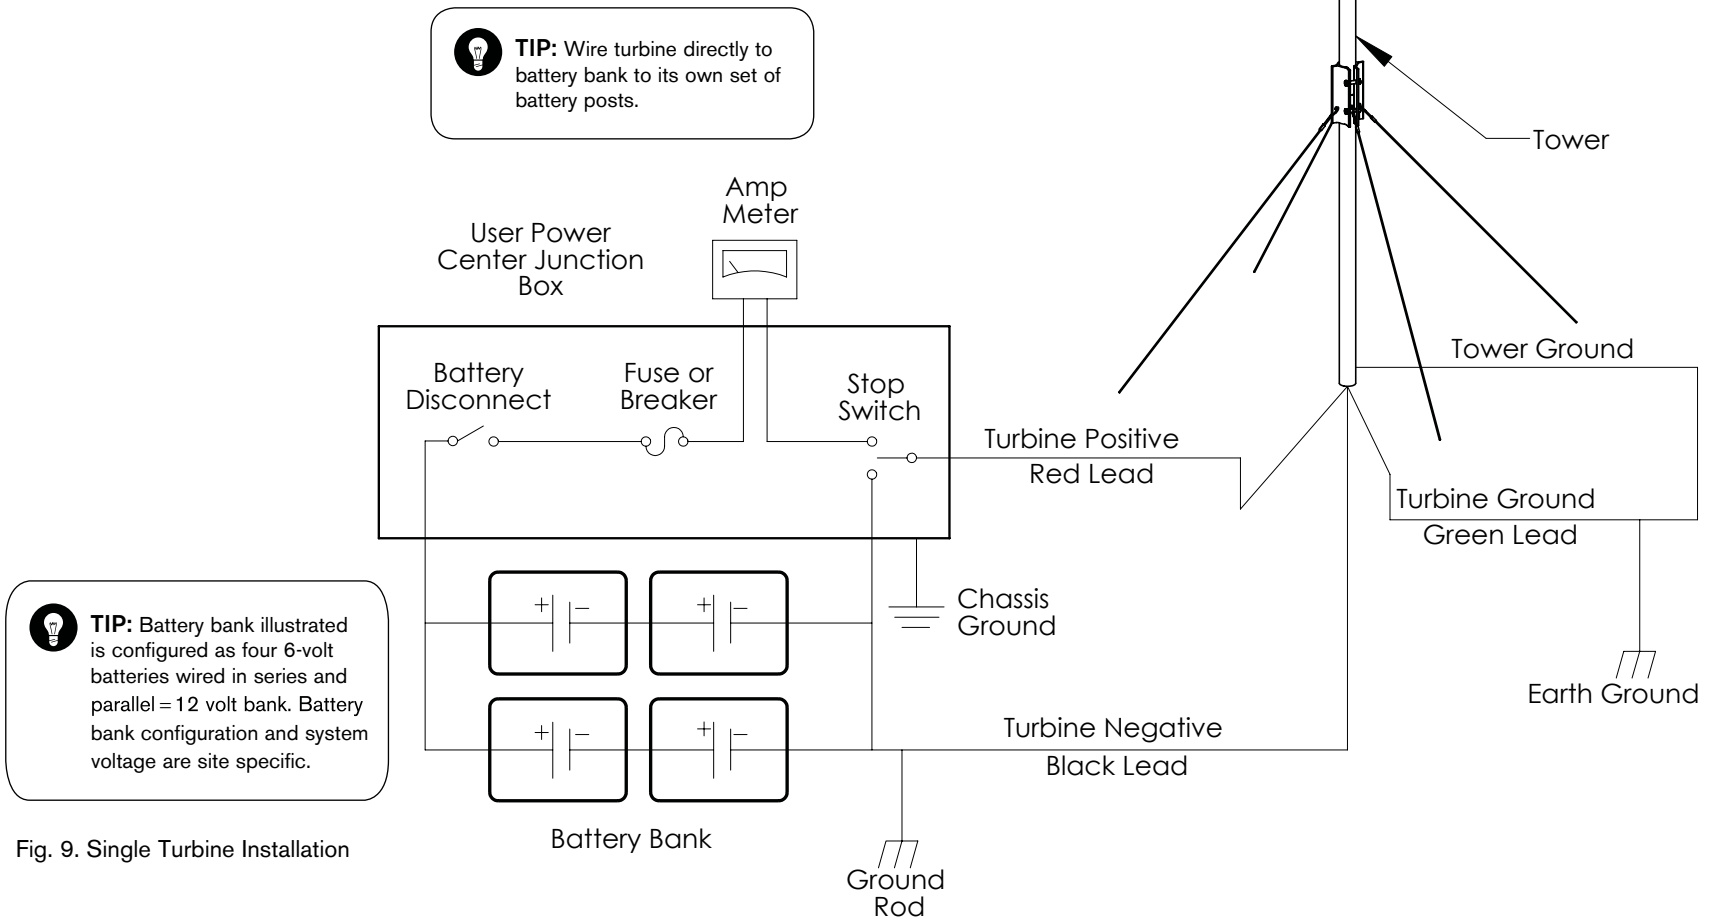
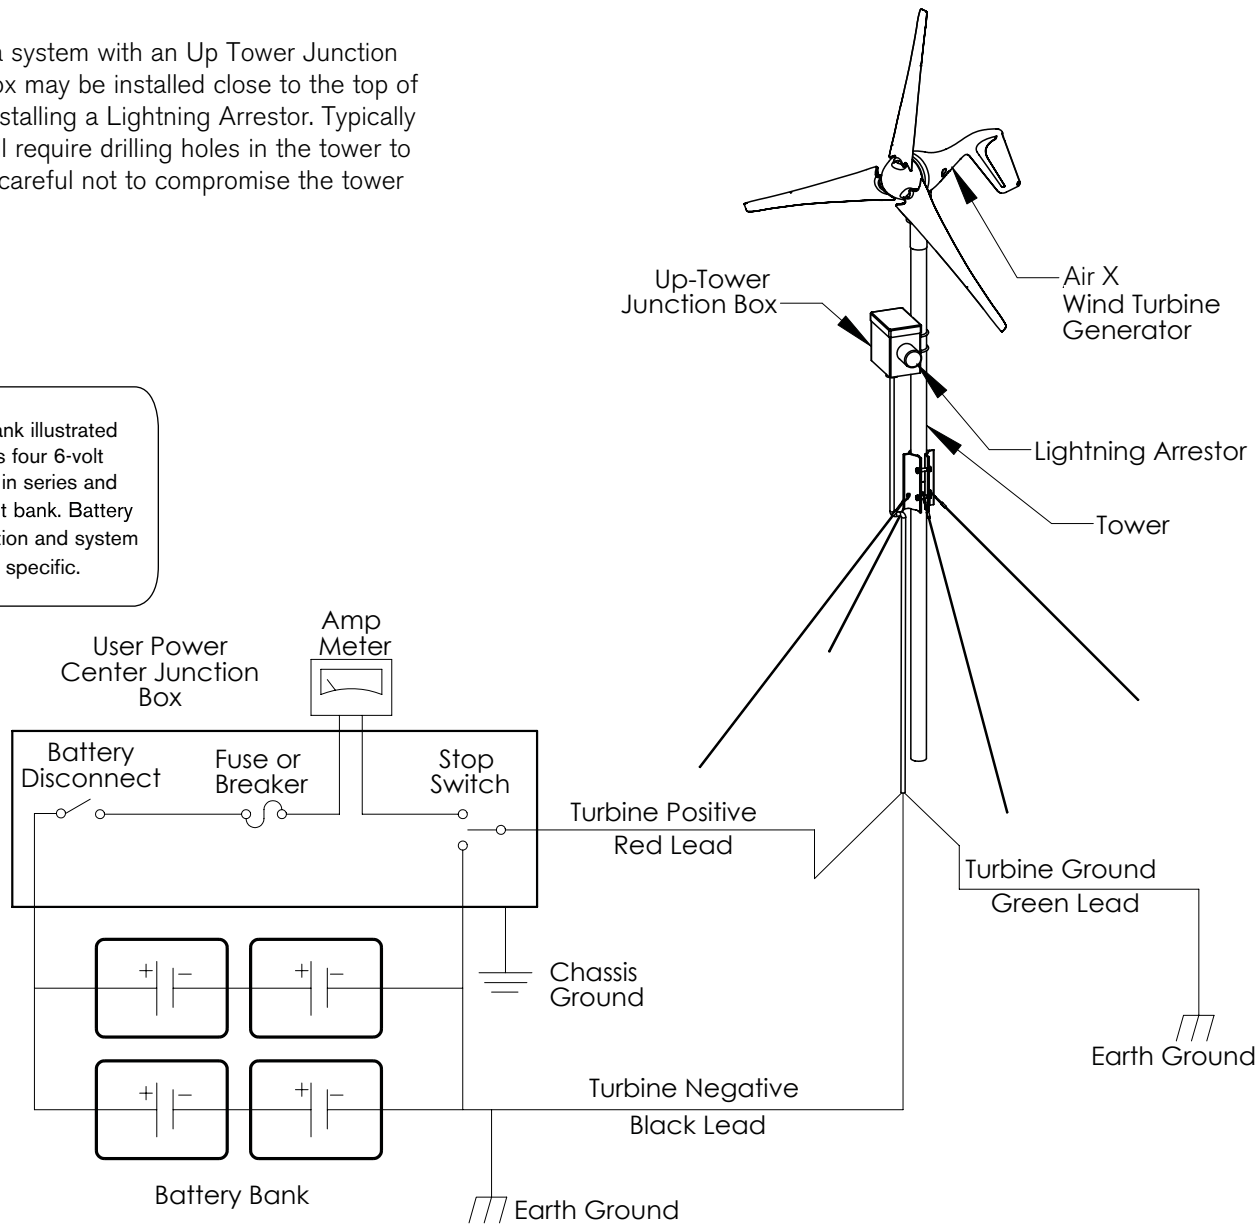

Fig. 9. Single Turbine Installation
Fig. 10. Single Turbine Installation with Up-Tower Junction Box
**Figs. 9 and 10** represent typical single turbine installations. **Fig. 10** includes an up-tower junction box for National Electric Code compliance. Contact Primus Wind Power for more information about this configuration.
**Fig. 10** represents a system with an Up Tower Junction Box. The junction box may be installed close to the top of the tower to ease installing a Lightning Arrestor. Typically installing the box will require drilling holes in the tower to install the box – be careful not to compromise the tower strength.
The following section (5-8) describes grounding the tower in detail. To ground the Air X turbine body, connect the Air X ground (green) conductor to the tower ground rod. Alternately the ground (green) conductor may be connected to the negative (black) conductor in which case it will be grounded through the battery bank ground rod. Refer to figures 9 through 12.